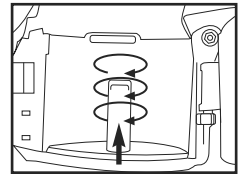

Figure 2
2. **Check Adjustment:** The nailer must be set for the length of nail to be used. Nails will not feed smoothly if the canister is not correctly adjusted. The canister contains an adjustable nail platform on which the nail coil rests. The nail platform can be moved up and down to four nail settings. To change setting pull up on the post and twist to the correct step. (See Figure 2)
The adjustable exhaust deflector can be rotated into any desired position by hand without the use of any tools. (See Figure 2)